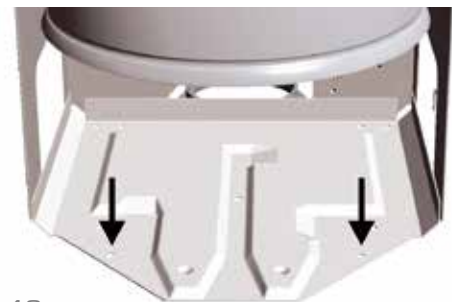

fig. 10
**NOTE:** Do not install a mosquito net over the end of the outlet air pipe. Cinderella may be secured to the floor using suitable fixings - see fig. 10.